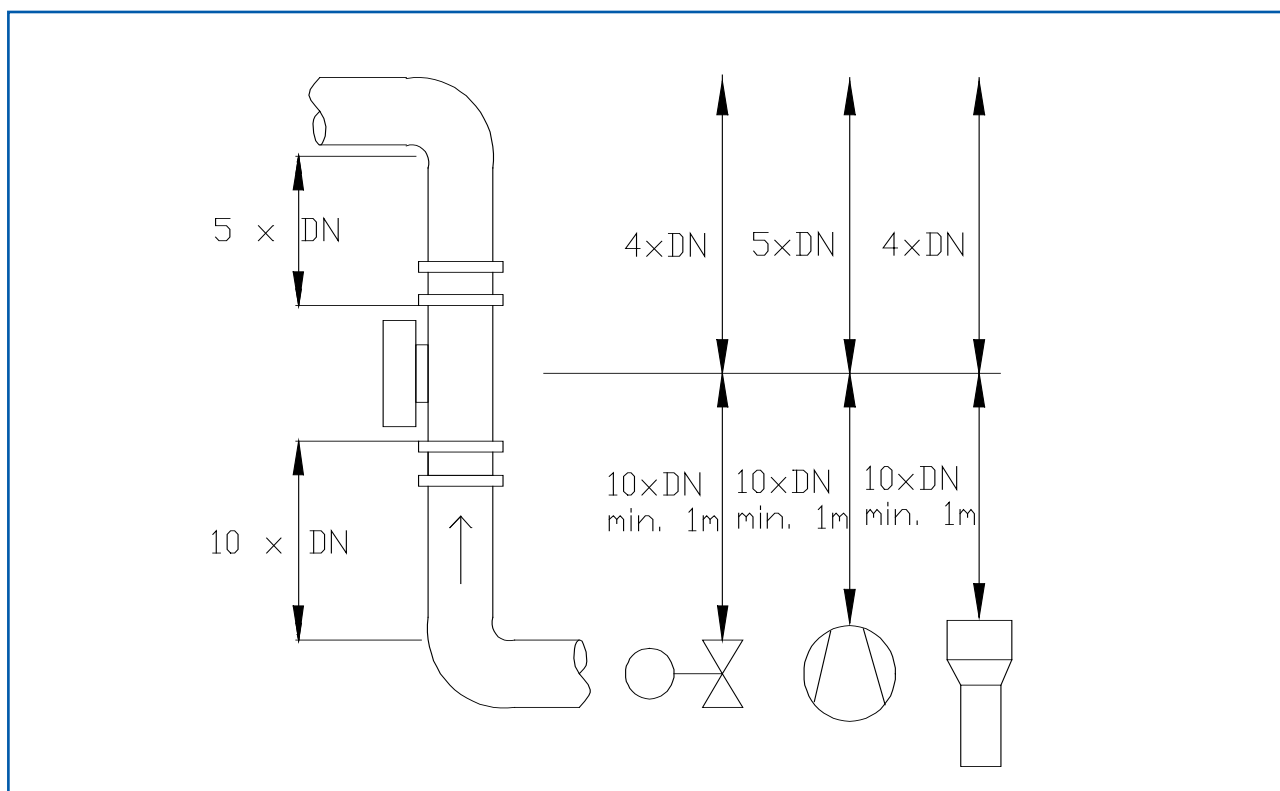

Fig. 3: Minimal distances of the sensor to pipe bends and baffles
- Follow the necessary distances of valves, bows, fans or cellular wheel sluices etc. and also other measurement devices like temperature and pressure etc. to the sensor (see fig. 3).